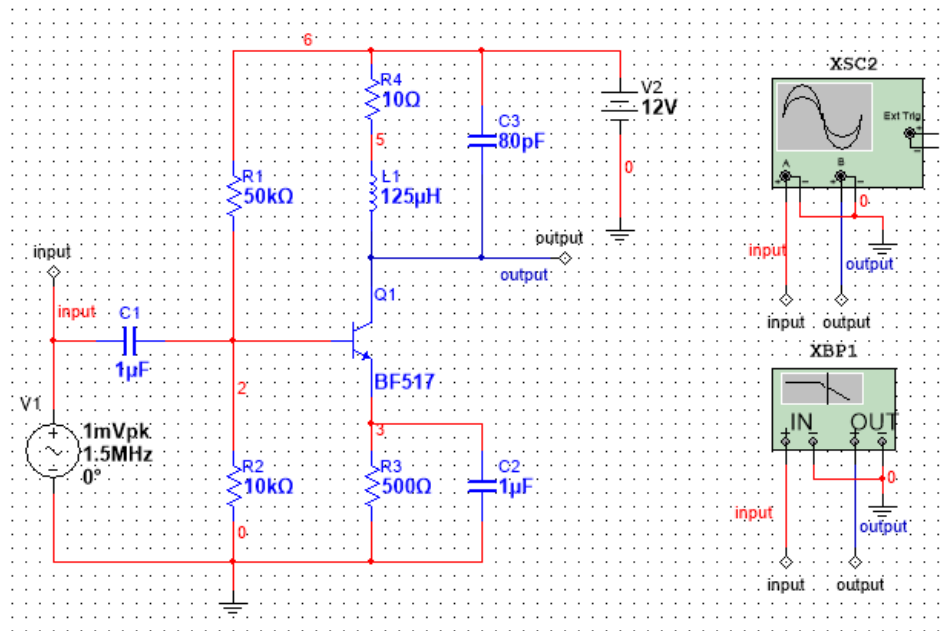

Figure 3 Circuit for Noise figure analysis
1. Consider the RF Amplifier circuit shown in Figure 3. The amplifier is configured for maximum output power at 1.5MHz. You will use **Noise Figure Analysis** to calculate the noise figure at 10 kHz.